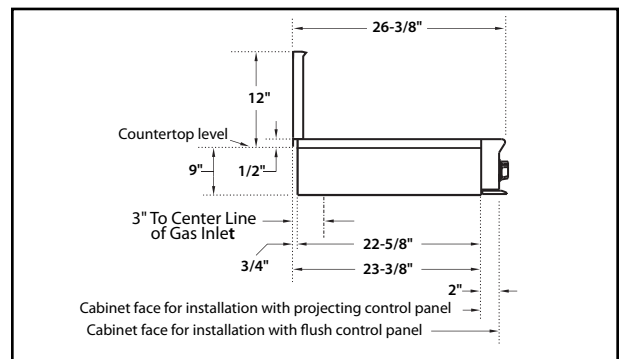

Fig. 2
4. The wok cooktop can be installed in various positions with the front either flush or projecting, depending on the countertop depth. (See Fig. 2 side view of wok cooktop; see Figs. 4-6 for alternate mounting positions.)